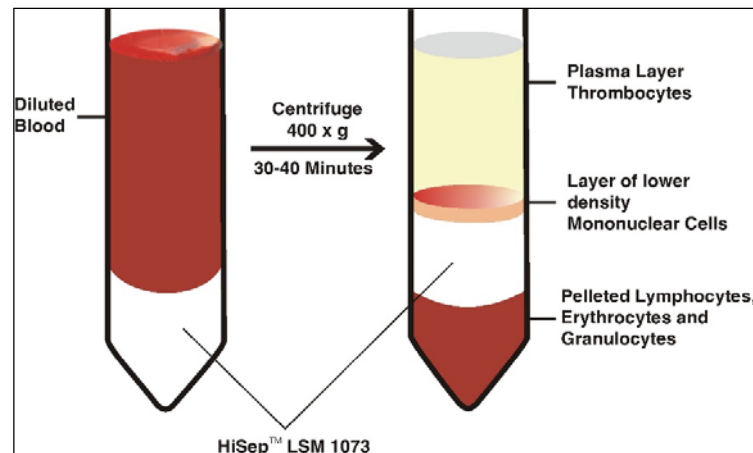

Fig.1
3. Centrifuge the tube at 400 x g for 30-40 minutes at room temperature. Do not centrifuge at lower temperatures like 4°C, as it may result in cell clumping or poor recovery. The brake of the centrifuge should always be in the off position. Centrifugation should sediment higher density lymphocytes erythrocytes and polynuclear leukocytes and band lower density mononuclear cells above HiSep™ LSM 1073 as shown in fig. 1